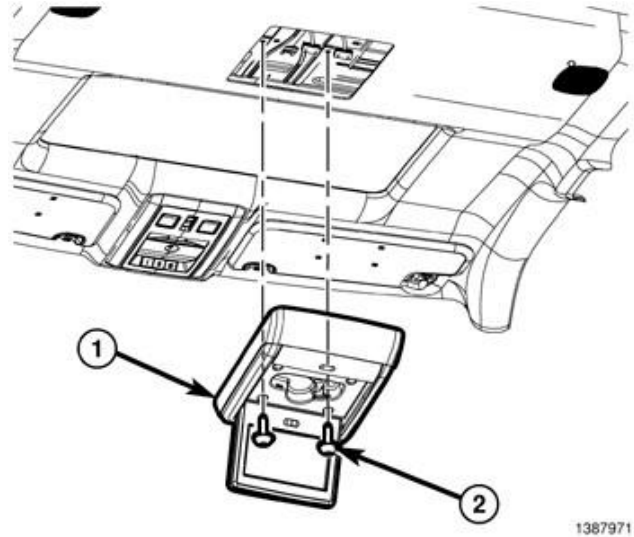
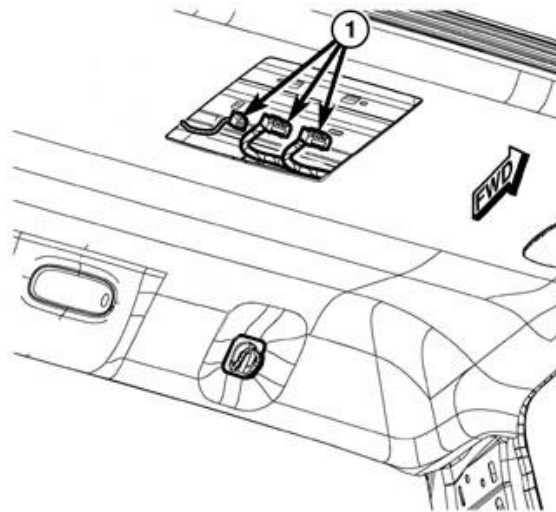

Figure 65 – Rear Seat DVD Monitor
Figure 66 – DVD Monitor Electrical Connectors
18. If equipped with DVD monitor, remove the screws (2) and separate the monitor (1) from the roof (Figure 65).
19. If equipped with DVD monitor, disconnect the electrical connectors (1) (Figure 66).
45. If equipped with DVD monitor, connect the DVD monitor electrical connectors (1) (Figure 66). Position the DVD monitor to the roof then install and tighten the screws (2) (Figure 65).